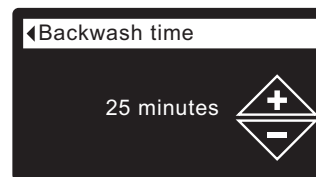

FIG. 74
- 8c. **Backwash time:** Press the UP (▲) or DOWN (▼) buttons to change the backwash time. Hold the button down to rapidly advance. The backwash time can be set from 1 to 99 minutes* (See Figure 74).